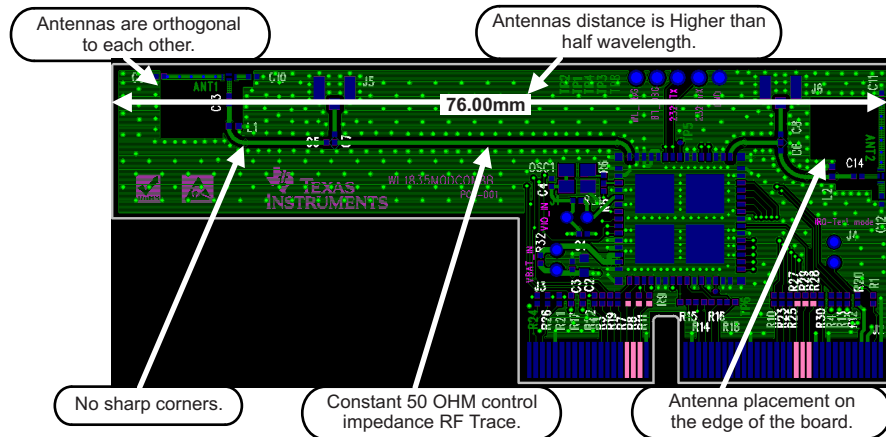

Figure 7-2. Location of Antenna and RF Trace Routing on the TMDXWL1835MODCOM8T Board
Figure 7-2 shows the location of the antenna on the WL1835MODCOM8 board as well as the RF trace routing from the (X)WL1835 module (TI reference design). The TDK chip multilayer antennas are mounted on the board with a specific layout and matching circuit for the radiation test conducted in FCC, CE, and IC certifications.